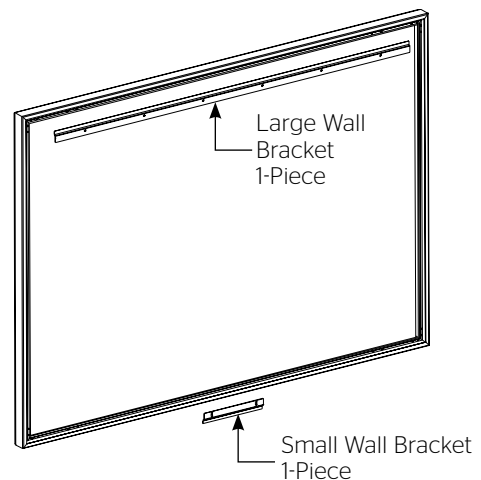

Figure 2
1. Secure the large wall bracket to wall studs at the desired height. Make sure the bracket is level. The top of the frame will be 1/8" above the top of the wall bracket when mounted. You will need at least 5/8" clearance above the bracket to hang the screen. Figures 2, 3, and 4 show the proper orientation for the supplied wall brackets.